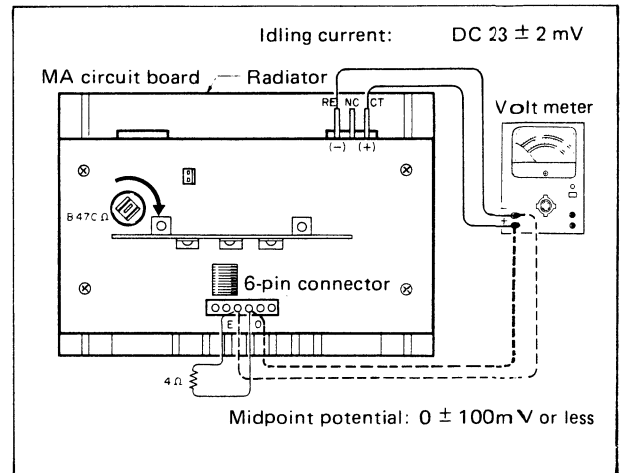

Fig. 5
Adjust the $B470\Omega$ semi-fixed resistor so that the voltage across test points RE (-) and CT (+) is set to DC 23 ± 23 mV under no-signal conditions. (Fig. 5)
Check that the DC voltage across the output terminals (O) and E under no-signal conditions is within 0 ± 100 mV. (Fig. 5)